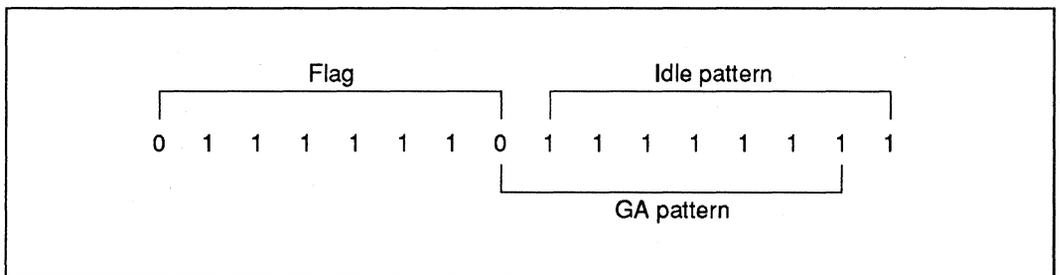

Figure 5-29 GA Pattern
Since the primary station's idle pattern is 11111111, a go-ahead (GA) pattern, shown in figure 5-29, is formed at the boundary of flag 01111110. The GA pattern requests the secondary station to transmit data.